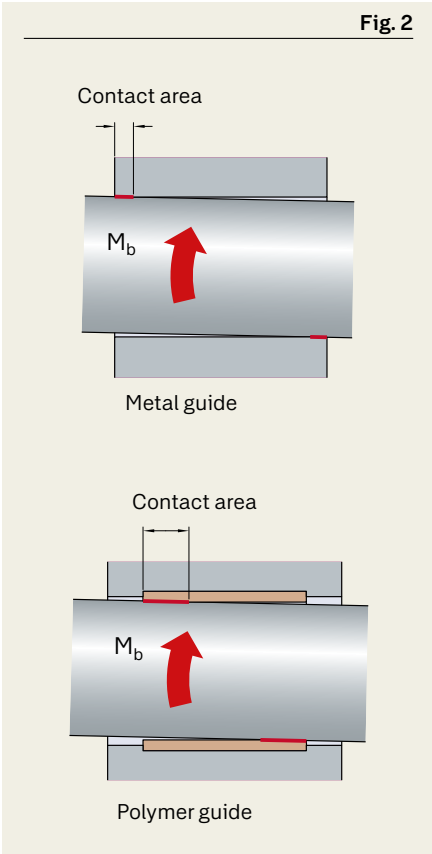

Fig. 2
- larger contact area (→ fig. 2 and fig. 4, page 124) due to higher degree of elastic deformation distributes the load and reduces stress to counter-surface